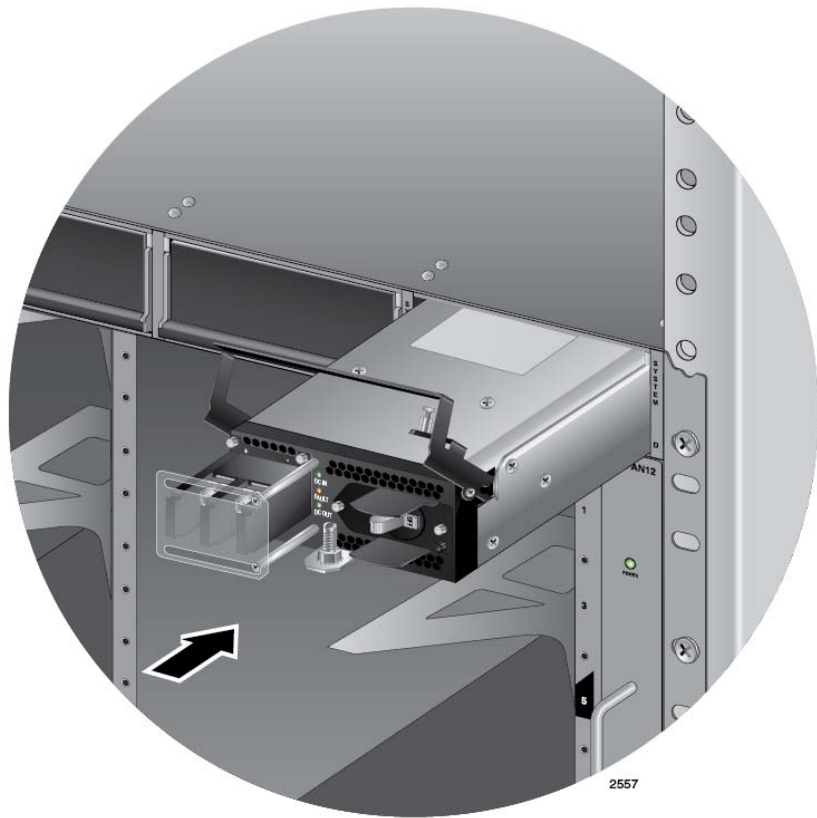

Figure 62. Inserting the AT-SBxPWRSYS1 DC System Power Supply
6. Align and insert the AT-SBxPWRSYS1 Module into slot C or D. Figure 62 on page 122 shows the power supply installed in slot D.